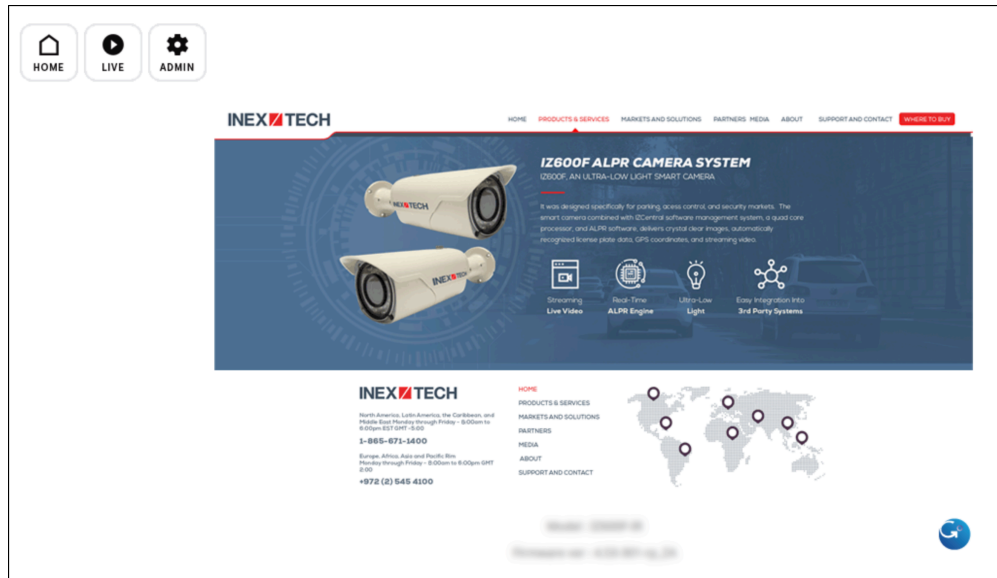

Figure 15. Camera's Home Page
1. To view the camera's home page (see Figure 15):